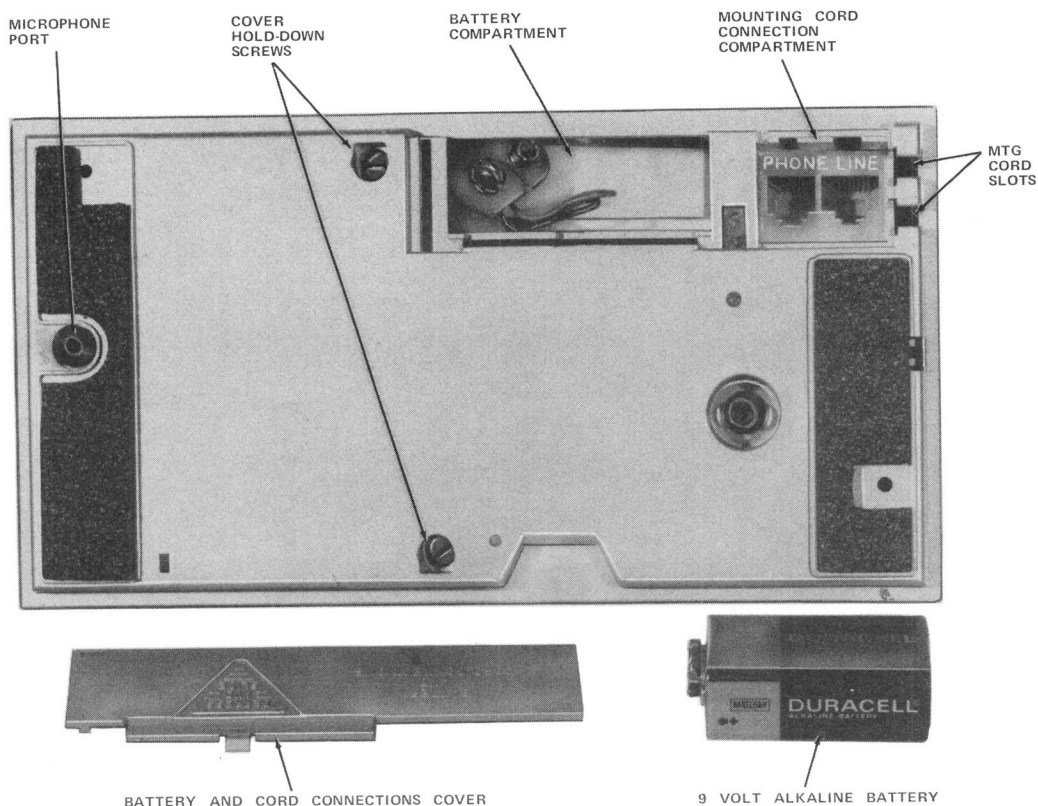

Fig. 5—Bottom View of The TELEHELPER Speakerphone With Battery and Cord Connections Cover Removed
**2.01** The speakerphone is available only with a dark brown (-104) base and an ivory (-50) cover (Fig. 3). The base contains a sliding battery and cord connections cover (Fig. 5). Under this cover are two compartments; the larger one is for a standard 9-volt alkaline battery, the other contains two modular jacks. The eight conductor jack is labeled LINE, the six conductor jack is labeled PHONE (Fig. 5).
**3.03** Remove battery and cord connections cover on bottom of speakerphone. Plug the standard D4BU mounting cord into the jack labeled LINE (Fig. 5) dressing the cord through the plastic cord
**3.06** Connect and place battery in battery compartment. Replace battery and cord connections cover (Fig. 5). Cover activates a switch which connects battery into circuits.